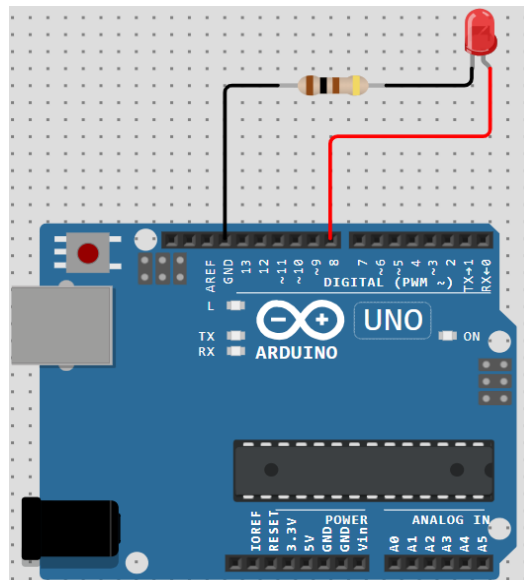

Fig. 6 LED state change and power measurement during different states of LED
1. Connect the anode (longer leg) of red LED to digital pin 8 and connect the cathode (shorter leg) to the ground through a 100 Ω resistor, as shown in Fig. 6.